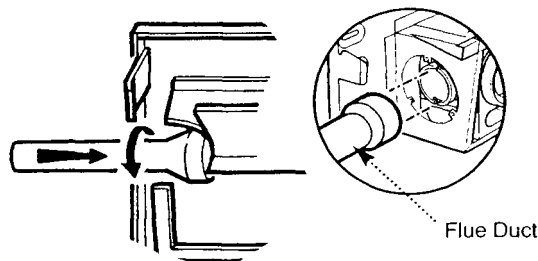

Fig. 49
3. Locate the flared end of the flue duct over the bayonet fitting on the turret, taking care not to damage the 'O' ring. Lock the flue in place by pressing in and turning clockwise (Fig. 49).